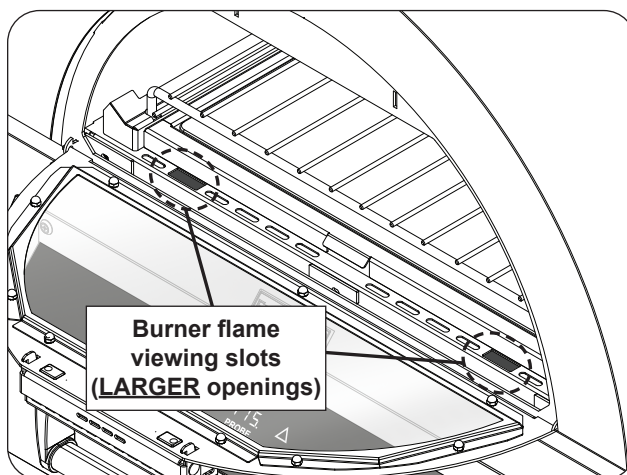

Fig. 35-3 Burner flame viewing slots
**Important:** Visually inspect the burner flames via the two rectangular flame viewing slots (see Fig. 35-3).
**CAUTION:** If the burners do not light within ten (10) *seconds* of the red LED status light turning on, turn off the unit by pressing the thermometer power switch. **WAIT FIVE (5) MINUTES** before repeating step 3. If you smell gas, follow the instructions on the cover of this manual. If the burners still do not light after several attempts, turn the system **OFF** and contact a qualified professional service technician.